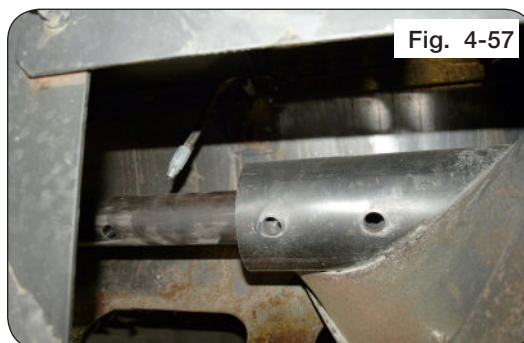

Fig. 4-57
17. Slide bushing insert into front auger and ensure tube holes are aligned. (Figure 4-56 & Figure 4-57)